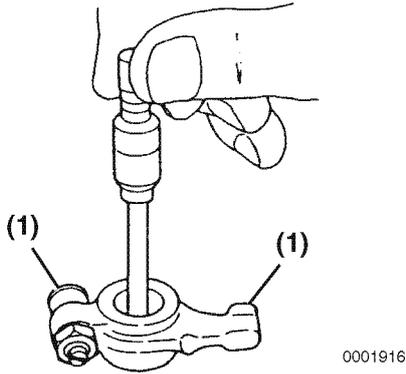

Figure 6-12
Use a telescoping gauge and micrometer to measure the inside diameter of all the rocker arm support brackets and the rocker arms (Figure 6-12). Record the measurements. See *Rocker Arm and Shaft on page 6-6 for the service limit.*
Inspect contact areas (Figure 6-12, (1)) for excessive wear or damage.